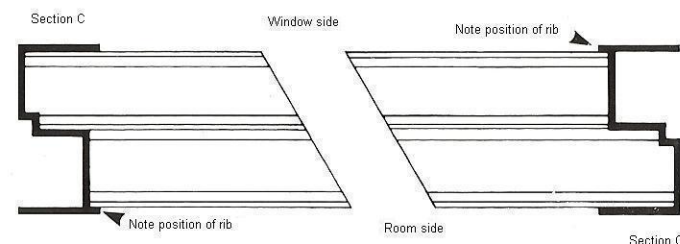

Figure 2
b) Position in the left side of the window recess with the small rib on the room side of the track and projecting towards the centre of the window (Figure 2)
d) Cut and fit the right hand side track as above, but with the small rib on the window side of the track (Figure 2).